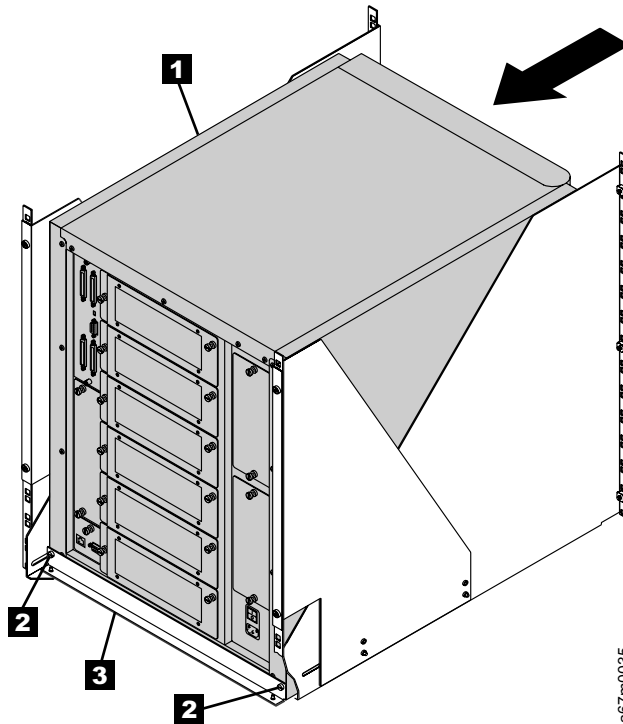

Figure 26. Placing the library into a rack
10. Slide the library (**1** in Figure 26) onto the rackmount hardware until it stops against the rear stop bracket **3** . Using the two Phillips screws **2** , attach the library to the rear stop bracket **3** . This ensures that the library is secured to the rack and is properly grounded.